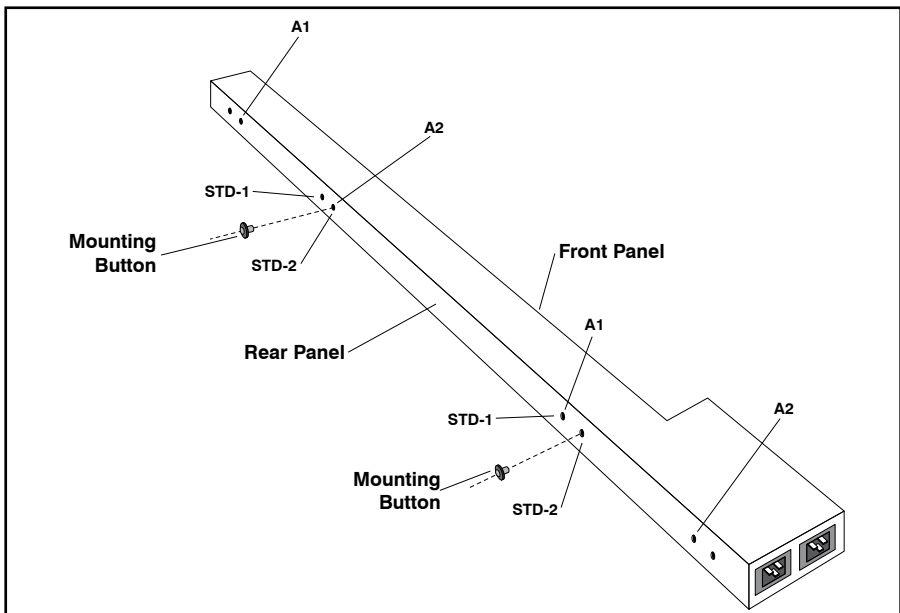

Figure 1: Installing Mounting Buttons
1. **Determine the Appropriate Mounting Button Locations:** Refer to Figure 1 and the table below to determine the appropriate button locations for your individual equipment rack: